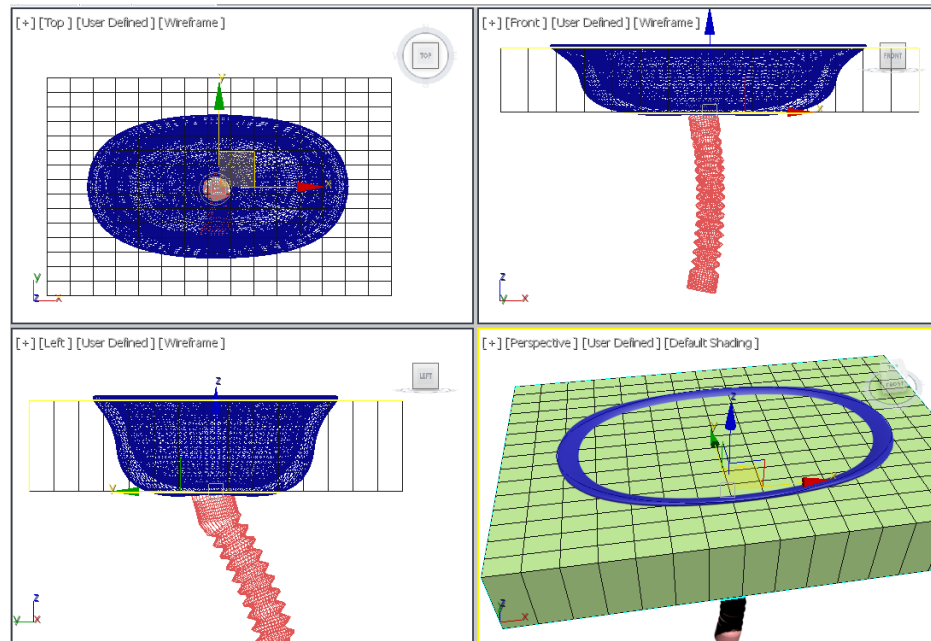

Figure 15-72 The washbasin slab created and aligned in viewports
2. Modify the name of the box to *washbasin slab* and align it, as shown in Figure 15-72.